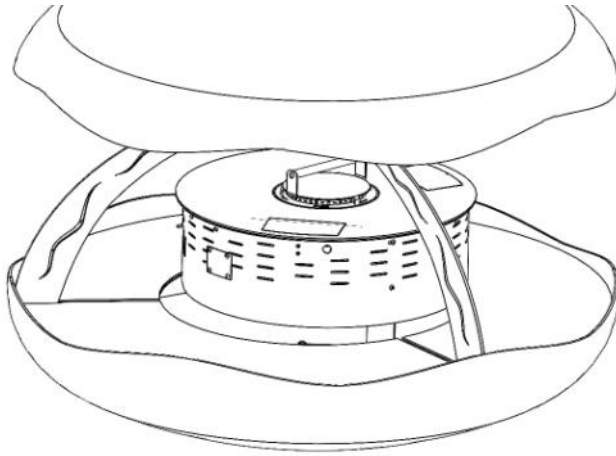

**Figure 8**— Assembly representation
Then place the spindle guard (H), figure 8